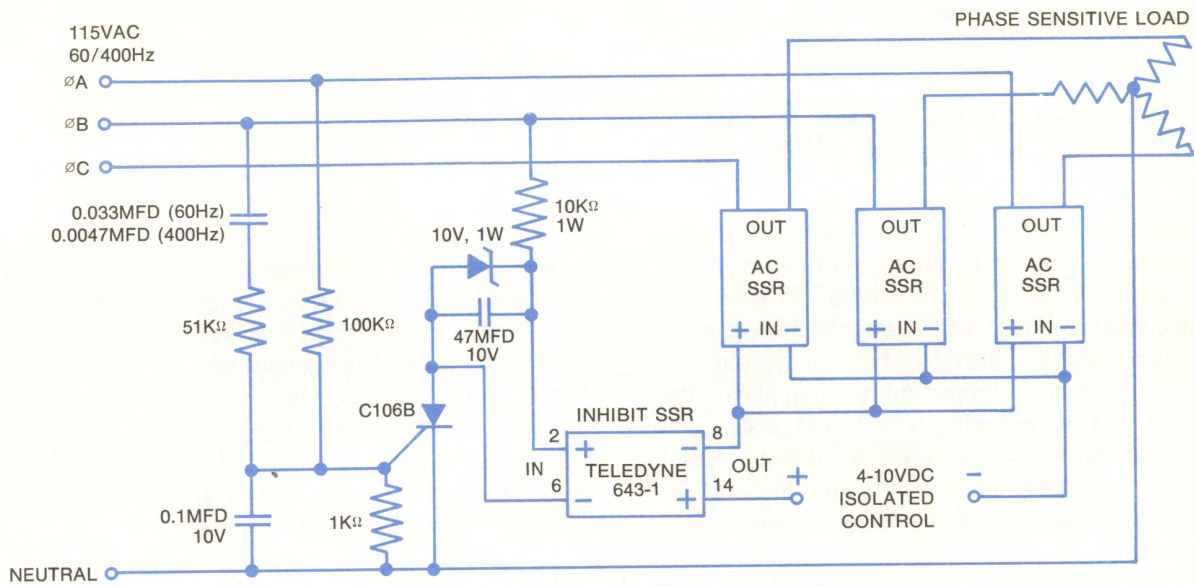

Fig. 2-27 Phase sequence detector.
2.6.13 Phase Sequence Detector (Fig. 2-27)